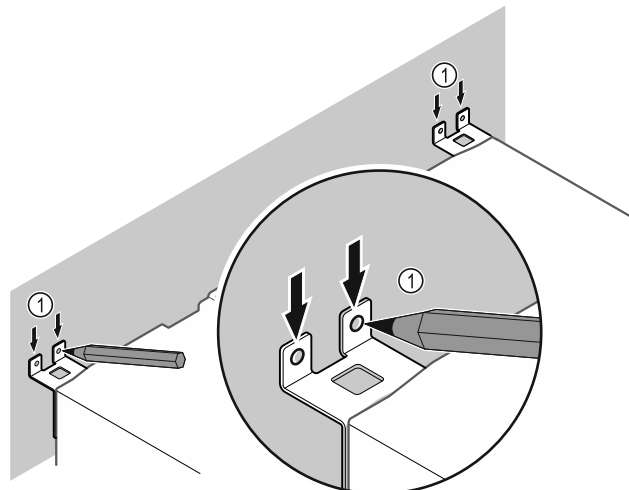

Fig. 11
- Make markings on the wall Fig. 11 (1).